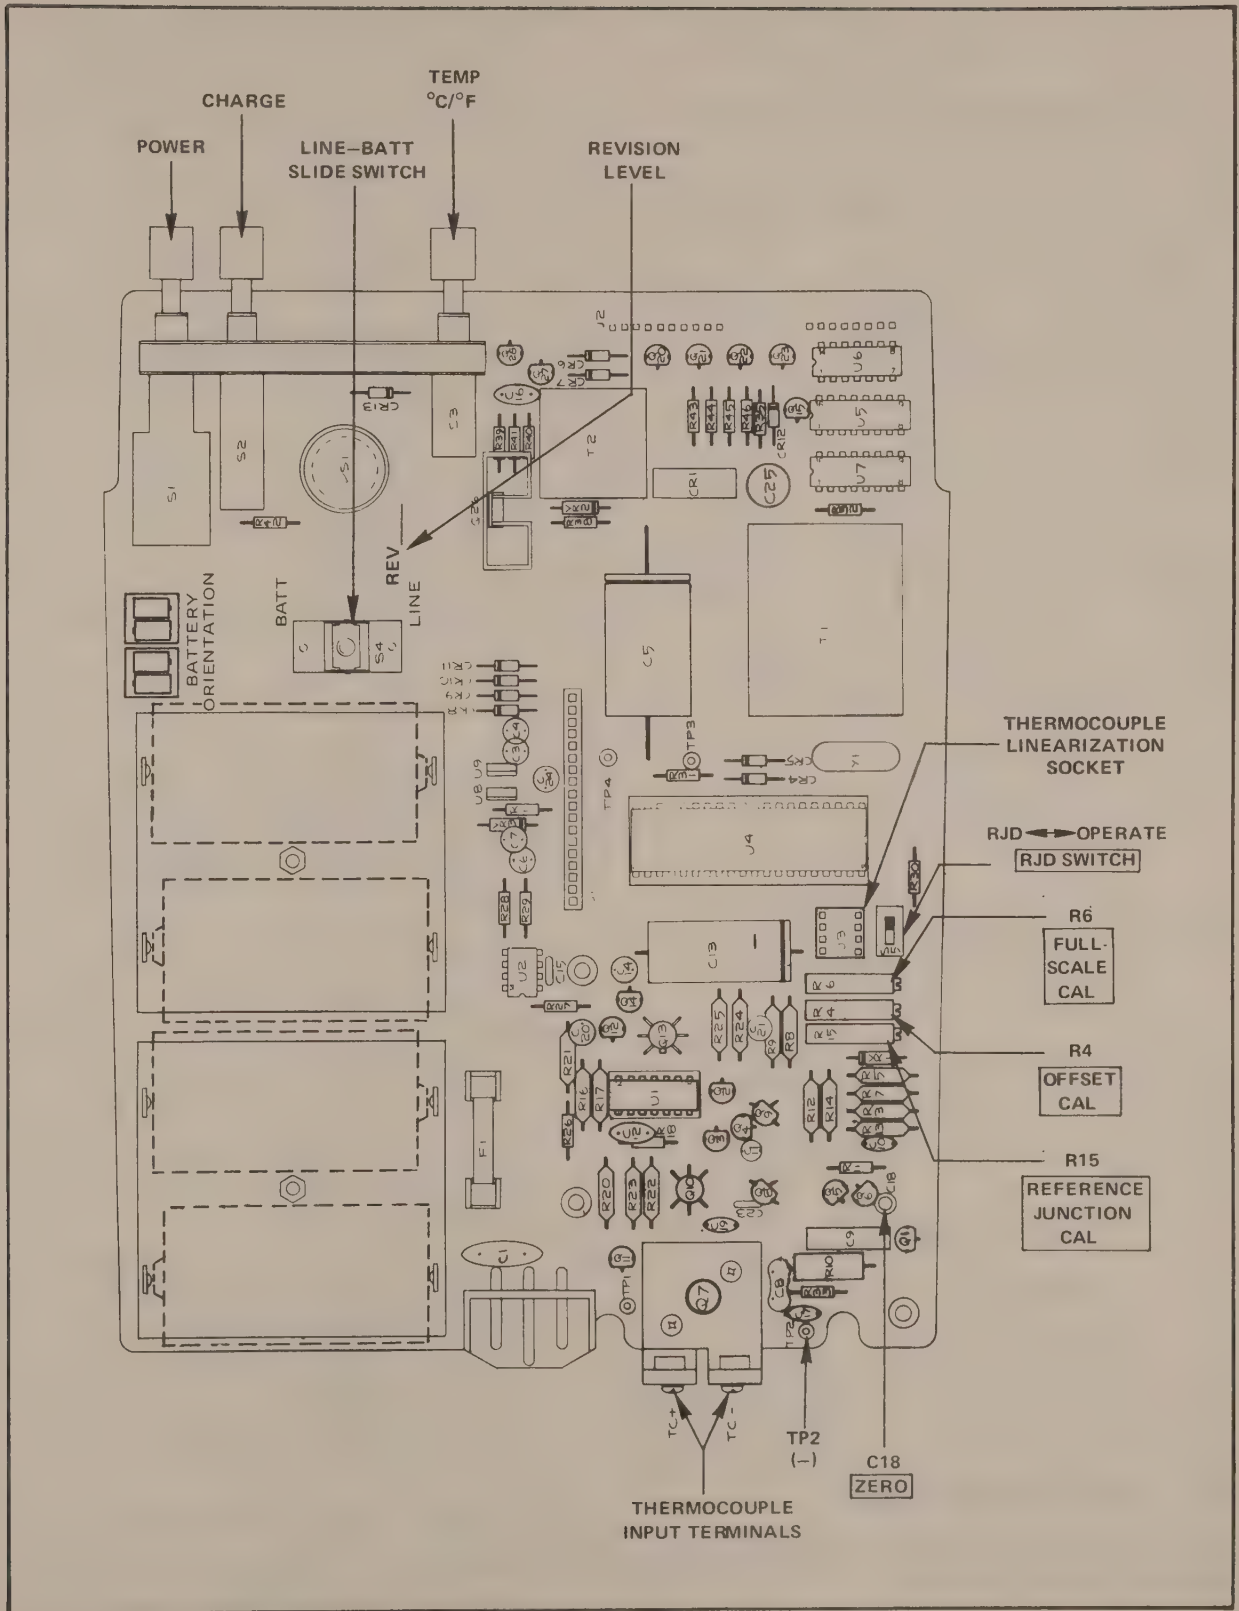

Figure 4-1. TEST POINT AND ADJUSTMENT LOCATIONS
- c. Locate the RJD switch on the main pcb (See Figure 4-1) and set it to the RJD position. (This defeats the reference-junction circuitry.)